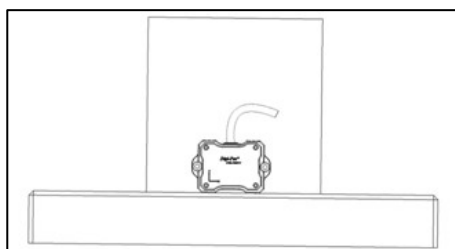

Figure 35. Tilt Sensor Module Position of Calibration Step 1
- Locate the sensor module as following Figure 35. The sensor is ready for user to perform calibration step 1.
10. For **DWL5500XY & DWL5800XY** model, please perform only 4 steps calibration as shown in Figure 35, 36, 41, and 42.